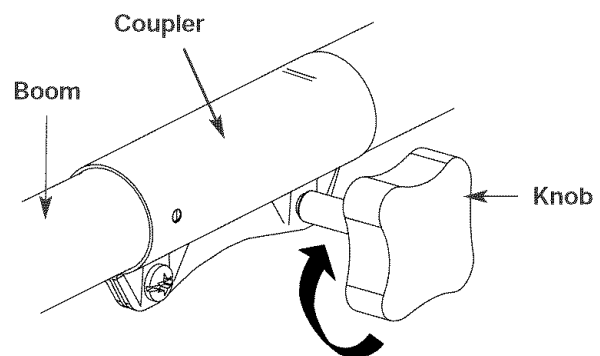

Fig. 14
4. Turn the knob clockwise to tighten (Fig. 14).